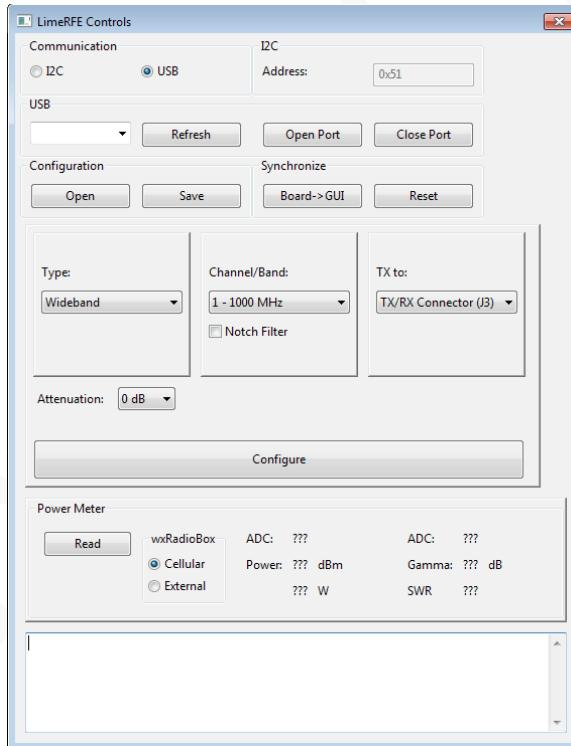

Figure 2: LimeRFE Controls window
- LimeRFE Controls window should appear, Figure 2. This window consists of several panels: Communication, I2C, Configuration, Synchronize, Configure, Power Meter and Message Display panel.